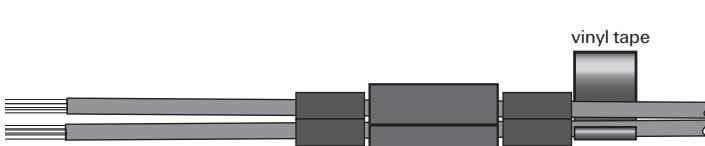

Figure 5
- Secure the cables with vinyl tape next to the felt tape. Do not tape over gel strip. (Fig. 5)